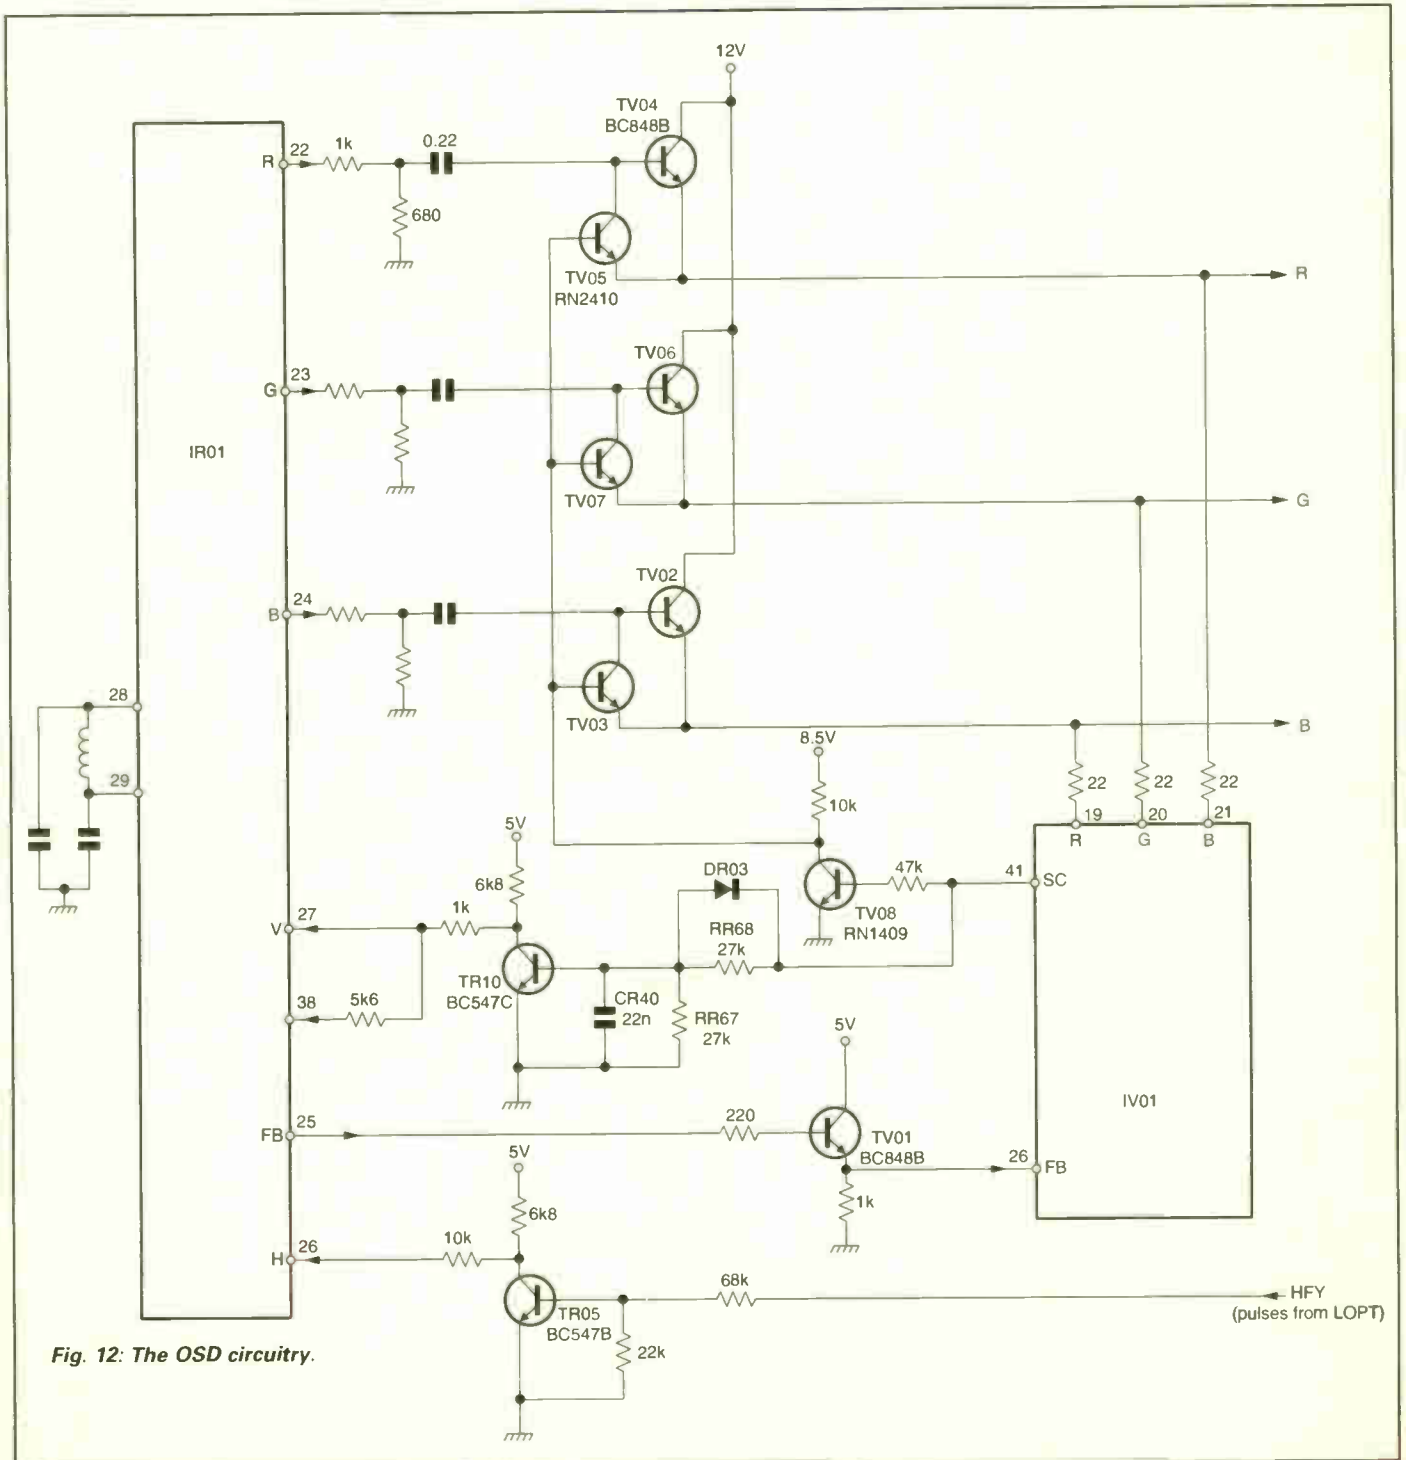

Fig. 12: The OSD circuitry.
IR01 produces the signals required to display menus on the screen. Fig. 12 shows the arrangement used. Pin 25 of IR01 feeds fast-blanking (FB) pulses to the base of